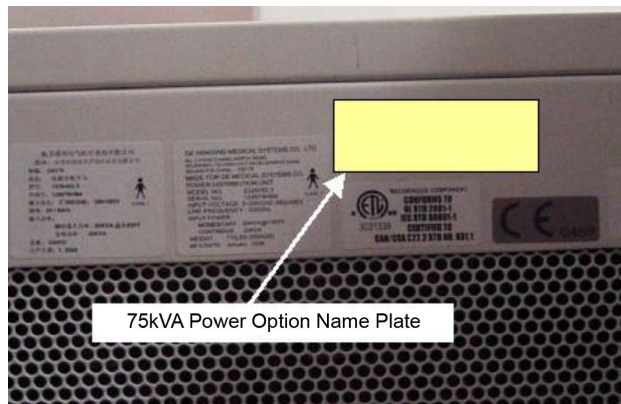

Figure 3-2 Location of Option Name Plate
- 2.) Remove the 75kVA Power Option Name Plate on the PDU rear cover. Refer to Figure 3-2.